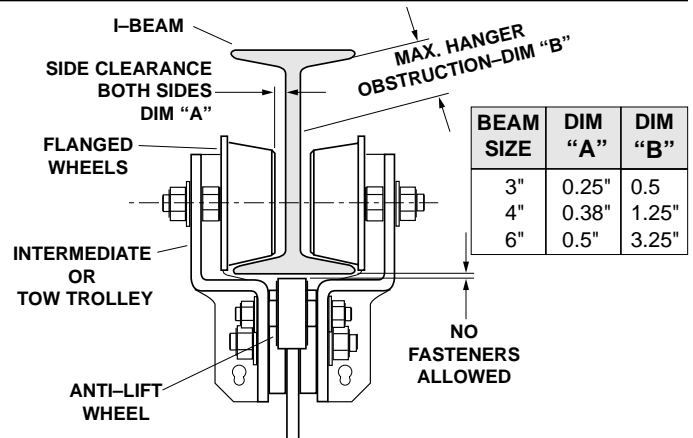
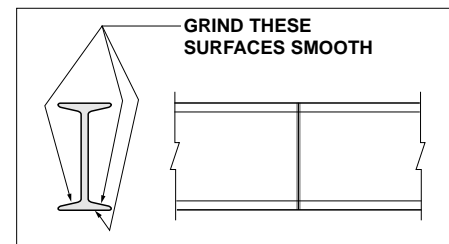

FIGURE 2-TROLLEY CLEARANCE
FIG 3-WELDED JOINT
1. Mount I-beam track to any suitable framework that is strong enough to support the entire weight of the festoon system (weight of I-beam, hanging hardware, trolleys and cables or hoses which will be carried by the festoon). Make sure hardware used for hanging I-beam will not interfere with free trolley movement. Refer to Figure 2-Trolley Clearance.
On previously installed track, check all joints and hangers for clearances shown in Figure 2.
3. Join beams by welding, keeping clearances shown in Figures 2, & 3. Use beams having the same lower flange tolerances. Grind welded joints smooth as shown in Figure 3.